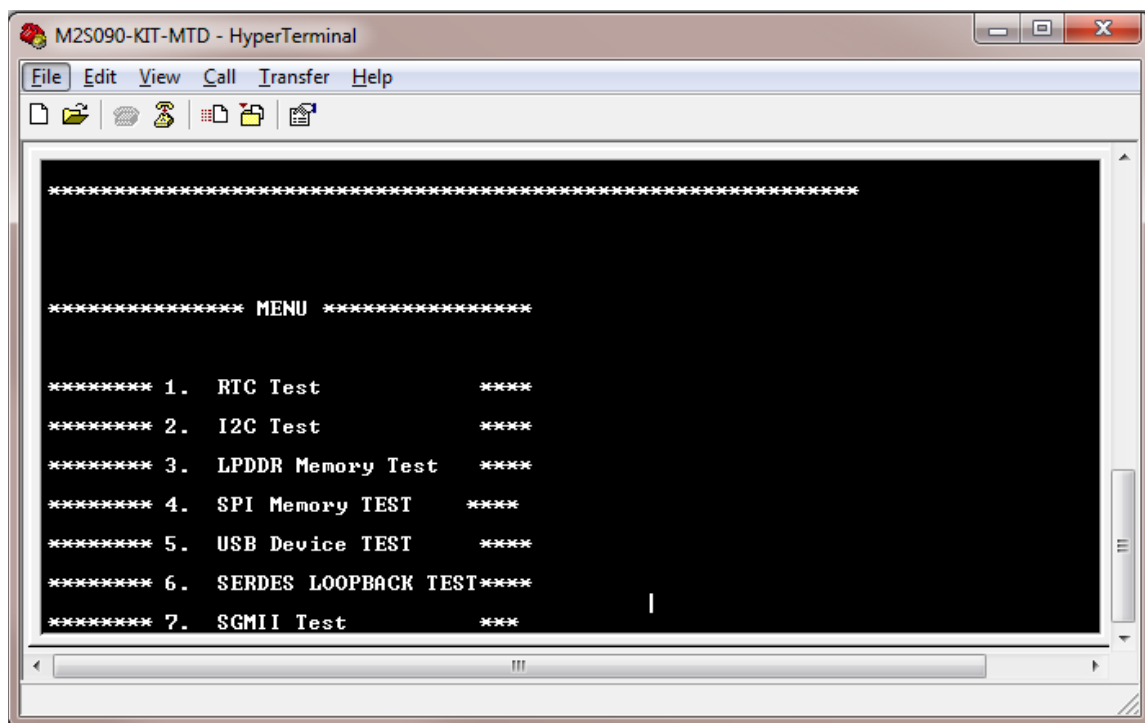

Figure 36 HyperTerminal Window
12. Press SW6 switch to restart the board with the settings. The HyperTerminal window is displayed, as shown in Figure 36.